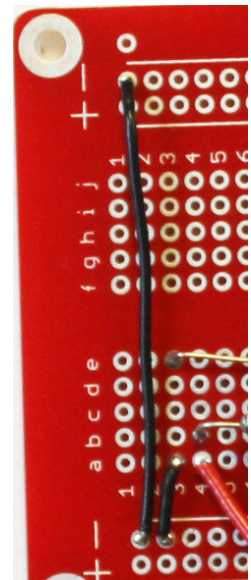

Figure 12
12. Prepare a solid black wire (22 AWG) about 2 inches long. Strip both ends and solder to top and bottom negative power bus (see Figure 12).